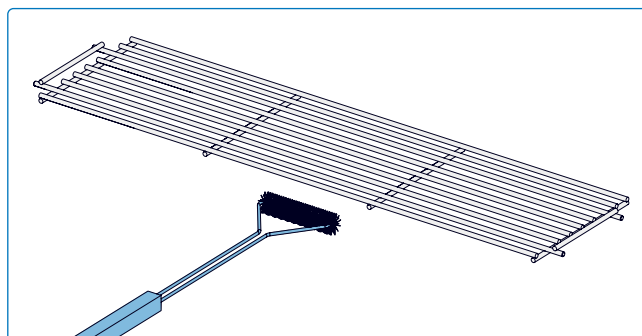

Fig. 21
3. With the rack removed, use a grill brush to clean the chrome warming rack (**Fig 21**).